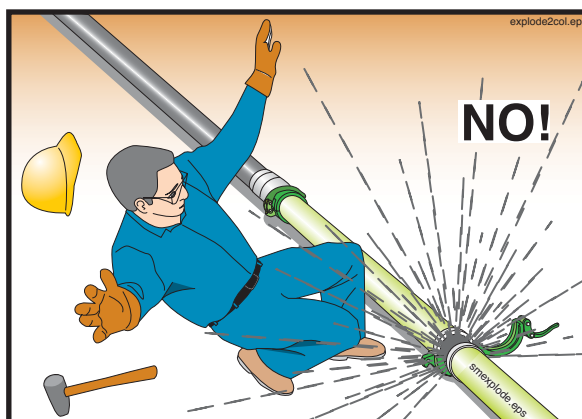

Figure 79
16.17 **⚠ WARNING** **Expulsion hazard!** (See Figure 79.) **Never open a pipeline that is under pressure.** The pump must be run in reverse for at least two strokes and then stopped before opening a pipeline. If the pipeline is pressurized with air, do not open it. The operator is responsible for knowing how to safely release the air pressure.